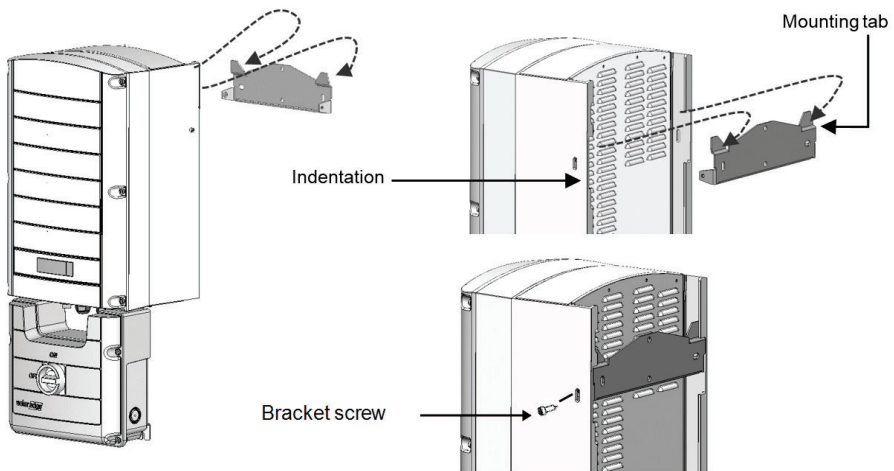

Figure 15: Hanging the inverter on the bracket
- Ensure that the flat edge of the bracket is at the bottom, as in *Figure 15*.
5. Hang the inverter on the bracket (see *Figure 15*): Lift the inverter from the sides, or hold it at the top and bottom of the inverter to lift the unit into place. Do not lift holding the Safety Switch/DC Safety Unit as it may be damaged.
9. Insert the two supplied screws through the outer heat sink fin on both sides of the inverter and into the bracket (see *Figure 15*). Tighten the screws with a torque of 4.0 N*m / 2.9 lb.*ft.